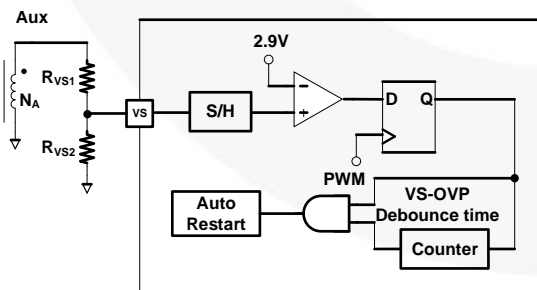

Figure 46. VS-OVP Protection Circuit
VS over-voltage protection prevents damage caused by output over-voltage condition. It is operated in Auto-Restart mode. Figure 46 shows the internal circuit of VS-OVP protection. When abnormal system conditions occur, which cause VS sampling voltage to exceed V_{VS-OVP} (2.9V) for more than 2 consecutive switching cycles (N_{VS-OVP}), PWM pulses are disabled and FAN602F enters Auto-Restart protection. VS over-voltage conditions are usually caused by open circuit of the secondary side feedback network or a fault condition in the VS pin voltage divider resistors. For VS pin voltage divider design, R_{VS1} is obtained from Equation (10), and R_{VS2} is determined by the desired VS-OVP protection function as